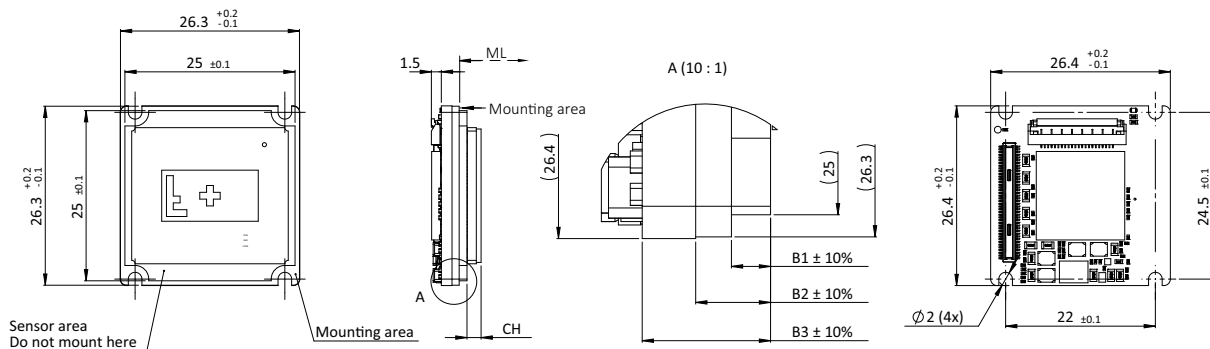

Figure 64: Bare Board (standard Alvium) dimensions
Dimensions that are common between different models are shown in Figure 64, model specific dimensions are listed in Table 96. **Mechanical length (ML)** defines the mechanical distance from the mounting area to the lens mount front flange, without optical filter. **Components height (CH)** relates to the electronic components with maximum height, sometimes the sensor.